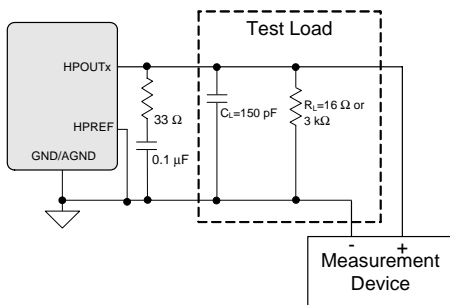
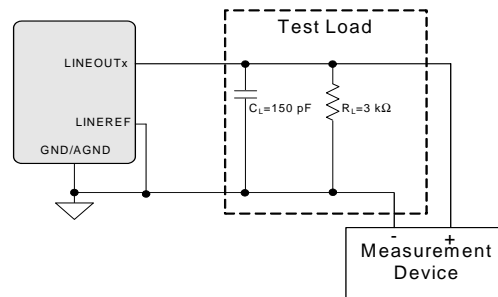

Figure 3. HP Output Test Configuration
Figure 4. Line Output Test Configuration
Test conditions (unless otherwise specified): Connections to the CS42L55 are shown in the “Typical Connection Diagram” on page 10; Input test signal is a full-scale 997 Hz sine wave; All Supplies = VA, VCP Mode; GND = AGND = 0 V; T_A = +25°C; Measurement bandwidth is 20 Hz to 20 kHz; Sample Frequency = 48 kHz; Test load R_L = 3 kΩ, C_L = 150 pF for a Line Load, and test load R_L = 16 Ω, C_L = 150 pF for a headphone load. (See Figure 3 on page 15).
Test conditions (unless otherwise specified): Connections to the CS42L55 are shown in the “Typical Connection Diagram” on page 10; Input test signal is a full-scale 997 Hz sine wave; All Supplies = VA, VCP Mode; GND = AGND = 0 V; $T_A = +25\text{ }^\circ\text{C}$; Measurement bandwidth is 20 Hz to 20 kHz; Sample Frequency = 48 kHz; Test load $R_L = 3\text{ k}\Omega$, $C_L = 150\text{ pF}$ (see Figure 3 on page 15).
- See Figure 3 and Figure 4 on page 15. Refer to “Parameter Definitions” on page 71.